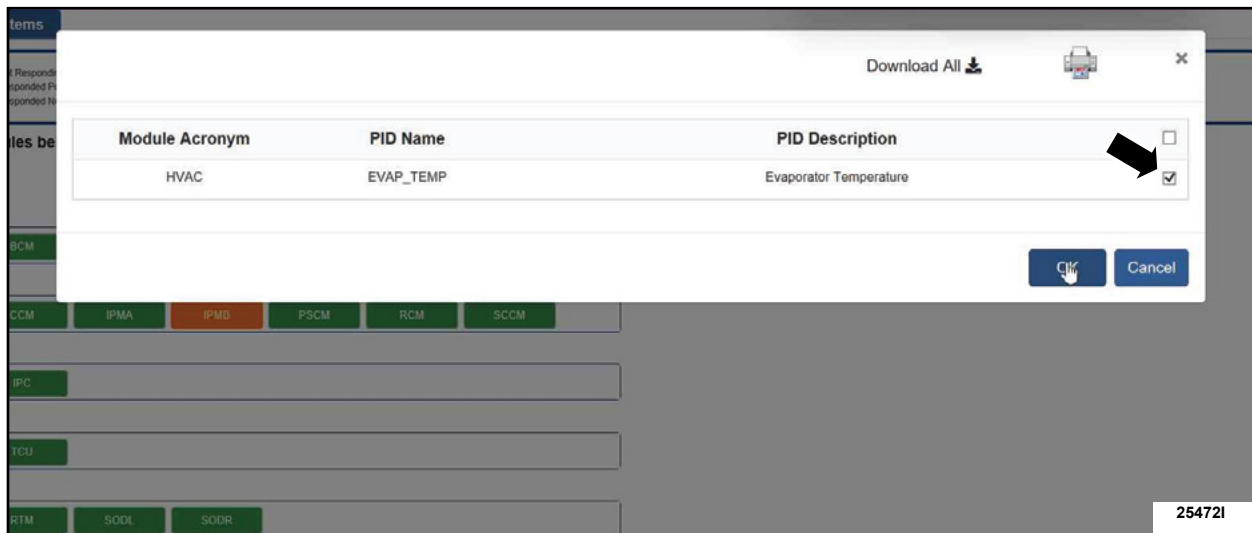

FIGURE 9
18. Check the **EVAP_TEMP** box and click **OK**. See Figure 9.